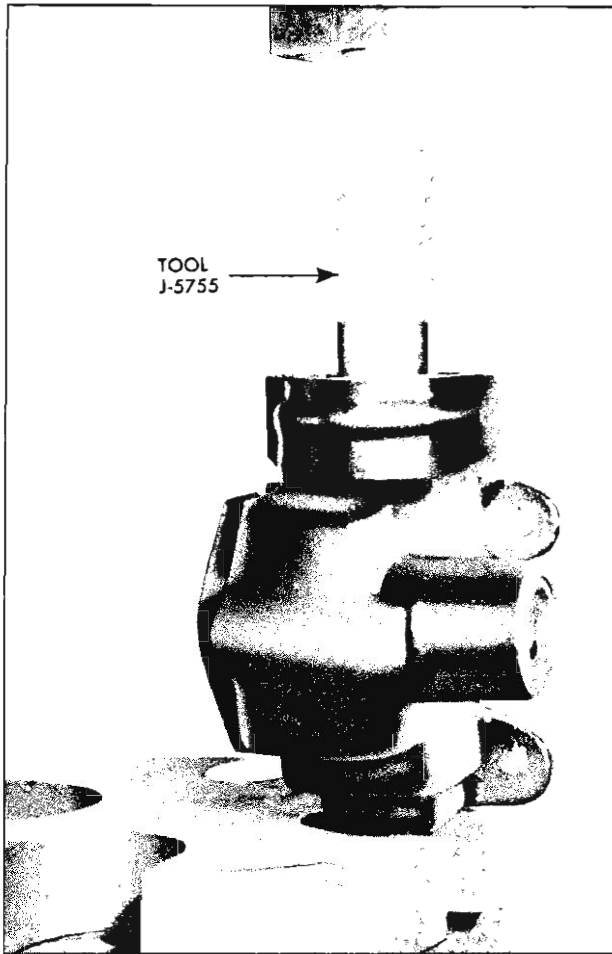

Fig. 49—Pressing Bearing Cap
2. Press new bearing cups into position using Tool J-5755 (fig. 49).